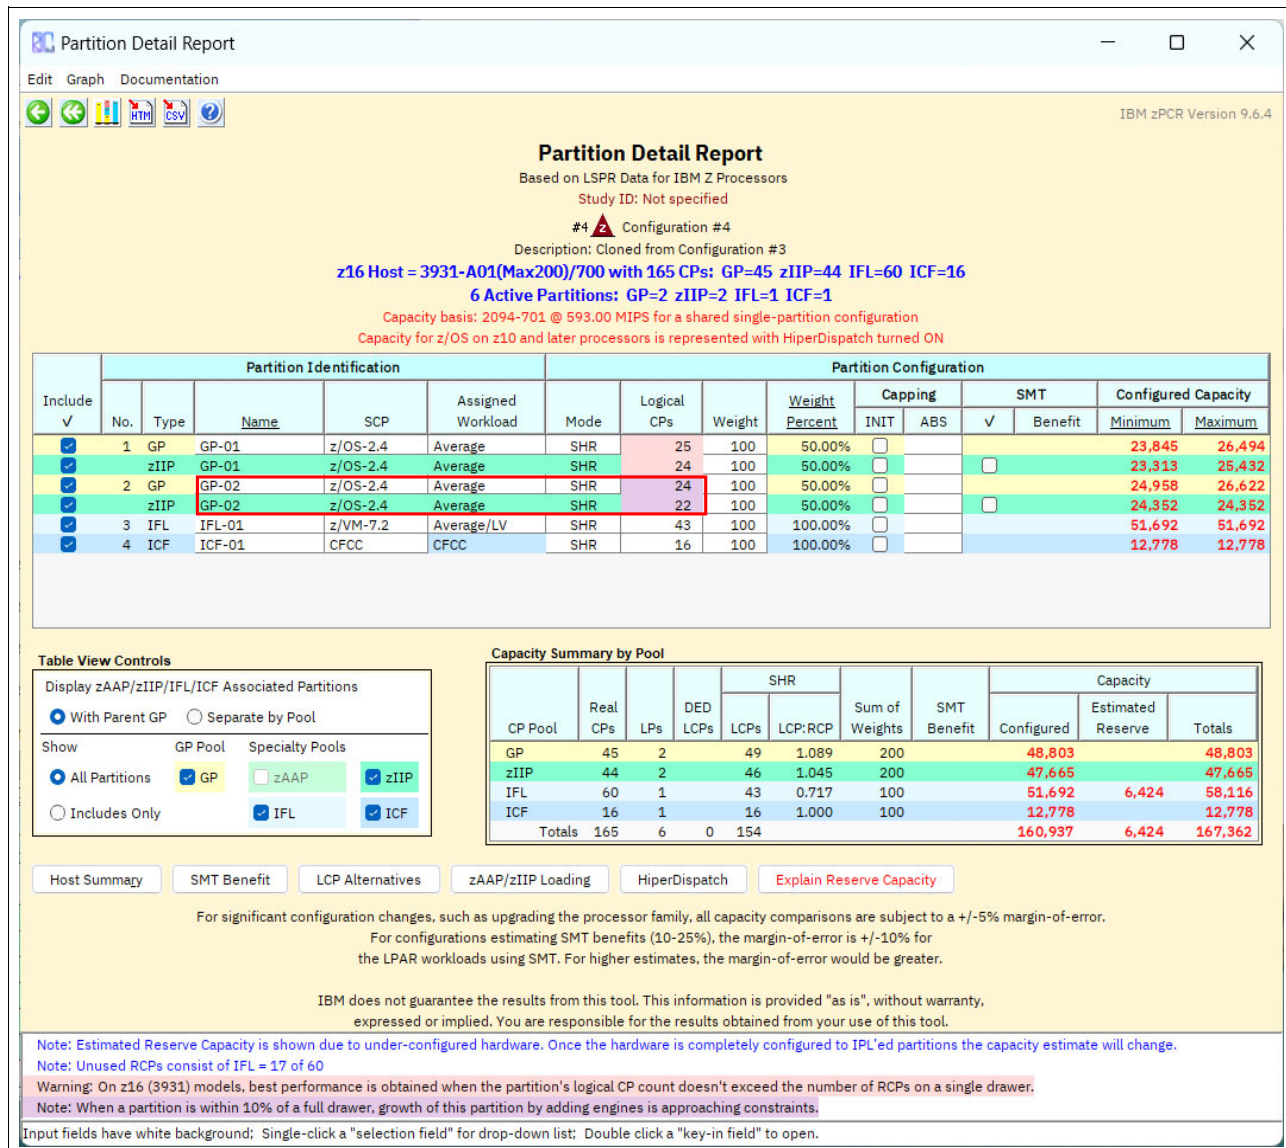
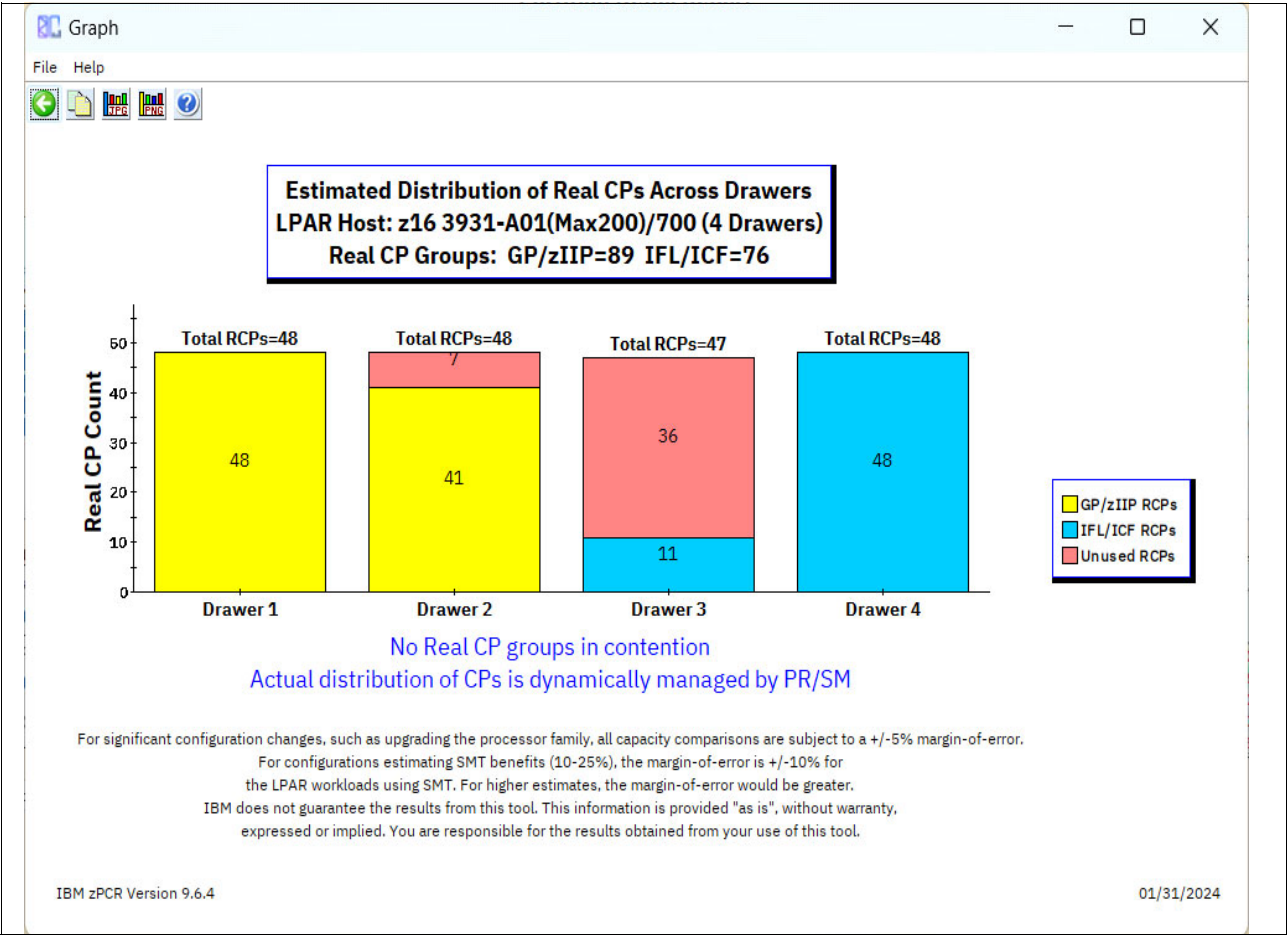
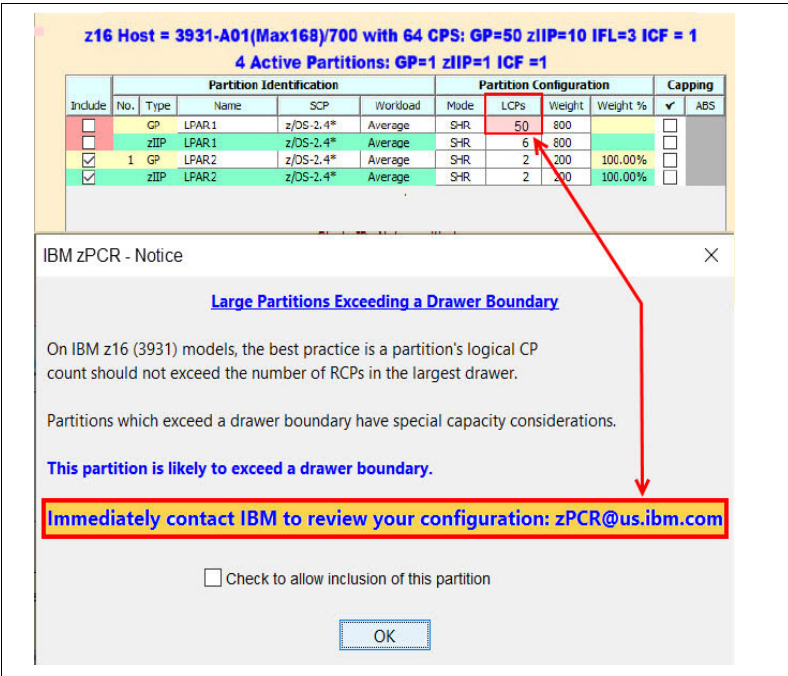

Figure 12-13 Partition Detail Report example (Max200)/700 with 165 CPs
Figure 12-14 Estimated distribution of real CPs across drawers report
Figure 12-15 Large Partition Exceeding a Drawer Boundary warning Message
See Figure 12-14 on page 512 and Figure 12-15 on page 512 for details about the new available graphs.
As shown in Figure 12-13 on page 511, the subject IBM z16 has 165 CPs, the PU resources are distributed according to the Figure 12-12 on page 510, and are also shown in the Estimated Distribution of RCPs Across Drawers graph in Figure 12-14 on page 512.
**Note:** Screen Captures from Figures 12-12 to Figure 12-15 were taken from an IBM z16 server zPCR study. All the examples shown are valid and compatible with IBM z17.
The new notice appears as a "Note" message in the Partition Detail Report. The "Note" and the partition LCPs are shaded with the same **violet** color, as shown for partition IFL-01 in Figure 12-12 above and for partition GP-02 in Figure 12-13 on page 511.
Figure 12-13 on page 511 shows an example of a Partition Detail Report this time for an **IBM z16, 3931-A01**, (Max200)/700 with 165 CPS (45 GPs, 44 zIIPs, 60 IFLs and 16 ICFs), and six active partitions (2 GP, 2 zIIP, 1 IFL and 1 ICF). Resources are allocated as shown in the Partition Identification and Partition Configuration fields.
As the IBM z16 has 165 CPs, the PU resources are distributed according to the Figure 12-12, and are shown in the Estimated Distribution of RCPs Across Drawers graph in Figure 12-14 on page 512.
**Important:** Please pay special attention to the colors assigned to the Logical CPs column and relate them to the "warnings" and "notes" at the bottom of the report. See Figure 12-13 on page 511.
The Partition Detail Report in Figure 12-13 above highlights the partition GP-02 to indicate it is within 10% of the maximum drawer size in the number of CPs. The GP-02 partition and the "Note" at the bottom are shaded with the same violet color.
IBM zPCR implements a warning notice when logical partition’s number of Logical CPs defined is larger than the number of Real CPs in a single drawer. When that scenario occurs, it is advisable to contact IBM to review your configuration. See Figure 12-15 on page 512.